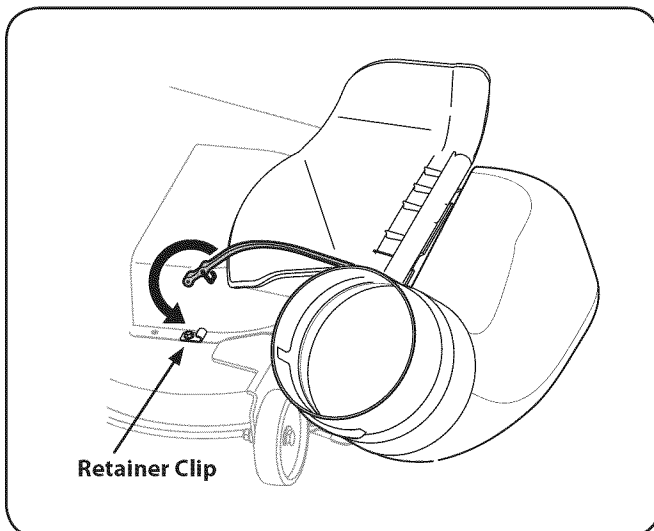

Figure 4-24
6. Attach the retainer strap on the discharge chute to the retainer clip on the deck. Refer to Fig. 4-24.
**IMPORTANT:** If the retainer clip is not present on the mowing deck, on some units, one has been included with hardware pack 689-00094A. Attach the retainer hook (16606) with a self-tapping screw (710-0599), from hardware pack 689-00094A in the position noted in Fig. 4-24.